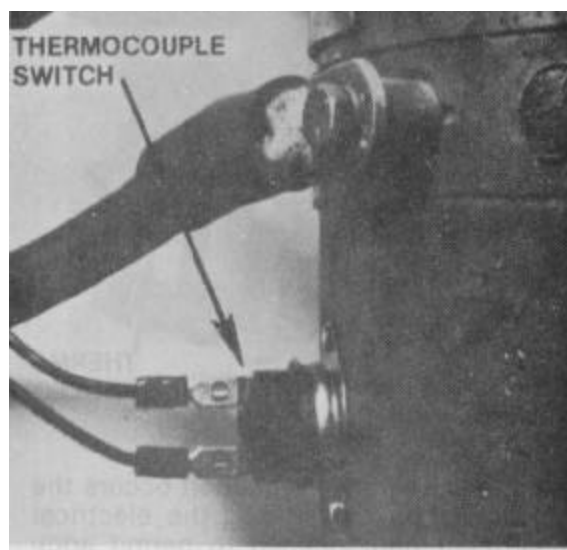

Figure 3-12
3.34 An open thermocouple switch on the pump motor or hydraulic oil tank will prevent the pump power contactor, "P", from closing. The motor thermocouple switch, is located on the motor frame beneath the "S2" power terminal (Fig. 3-12). The two oil tank thermocouple switches, TP-3 and TP-4, are located on the rear panel of the hydraulic tank, one to the right and the other to the left and above the suction outlet elbow (Pg. 5-51, Fig. 5-133). The following reasons may cause the thermal switches to open: